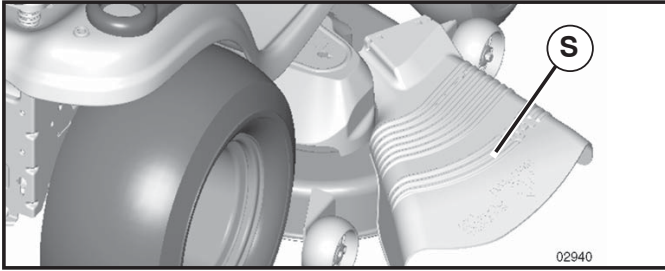

Fig. 10
**CAUTION:** Do not operate the mower without either the entire grass catcher, on mowers so equipped, or the deflector shield (S) in place. (See Fig. 10)